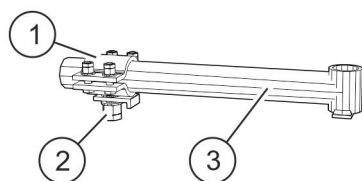
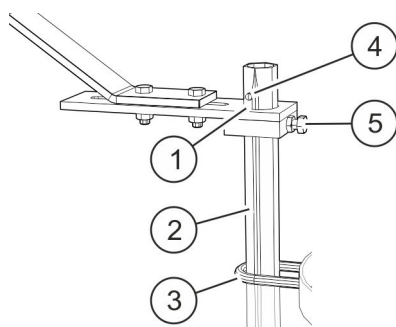

Fig. 29: Pipe clamp and clip
Fig. 30: Guide tube and adjusting ring
4. ➤ Bolt the clip for the pipe clamp (Fig. 29/1) onto the mast mounting so that it can still slide easily.
5. ➤ Fasten the pipe clamp (Fig. 29/3) to the clip (Fig. 29/1) loosely enough that it can still slide easily.
7. ➤ If the diagonal struts on the mast require you to do so, shorten the pipe clamp (Fig. 29/3).
8. ➤ Slide the guide tube (Fig. 30/2) through the guide clip on the set of weights (Fig. 30/3), through the adjusting ring (Fig. 30/5) and through the bracket for the guide tube (Fig. 30/1).
9. ➤ Secure the guide tube with the grooved cylindrical pin (Fig. 30/4).
10. ➤ Make sure that the grooved cylindrical pin (Fig. 30/4) is at a distance of 10 mm from the bracket (Fig. 30/1).
11. ➤ Mark the guide tube (Fig. 30/2) at a maximum of 2 cm protrusion below the pipe clamp.
12. ➤ Shorten the guide tube (Fig. 30/2) to the required length at its bottom end.
13. ➤ Place the guide tube (Fig. 30/2) in the pipe clamp (Fig. 29/3).
14. ➤ Slide the adjusting ring (Fig. 30/5) into the top position on the bracket for the guide tube (Fig. 30/1) and screw it tight.
15. ➤ Adjust the bracket (Fig. 30/1) and pipe clamp (Fig. 29/3) so that the guide tube (Fig. 30/2) is vertical.
- 17.** ▶ Screw the locking nut (Fig. 29/2) onto the clip (Fig. 29/1) of the pipe clamp and tighten it.